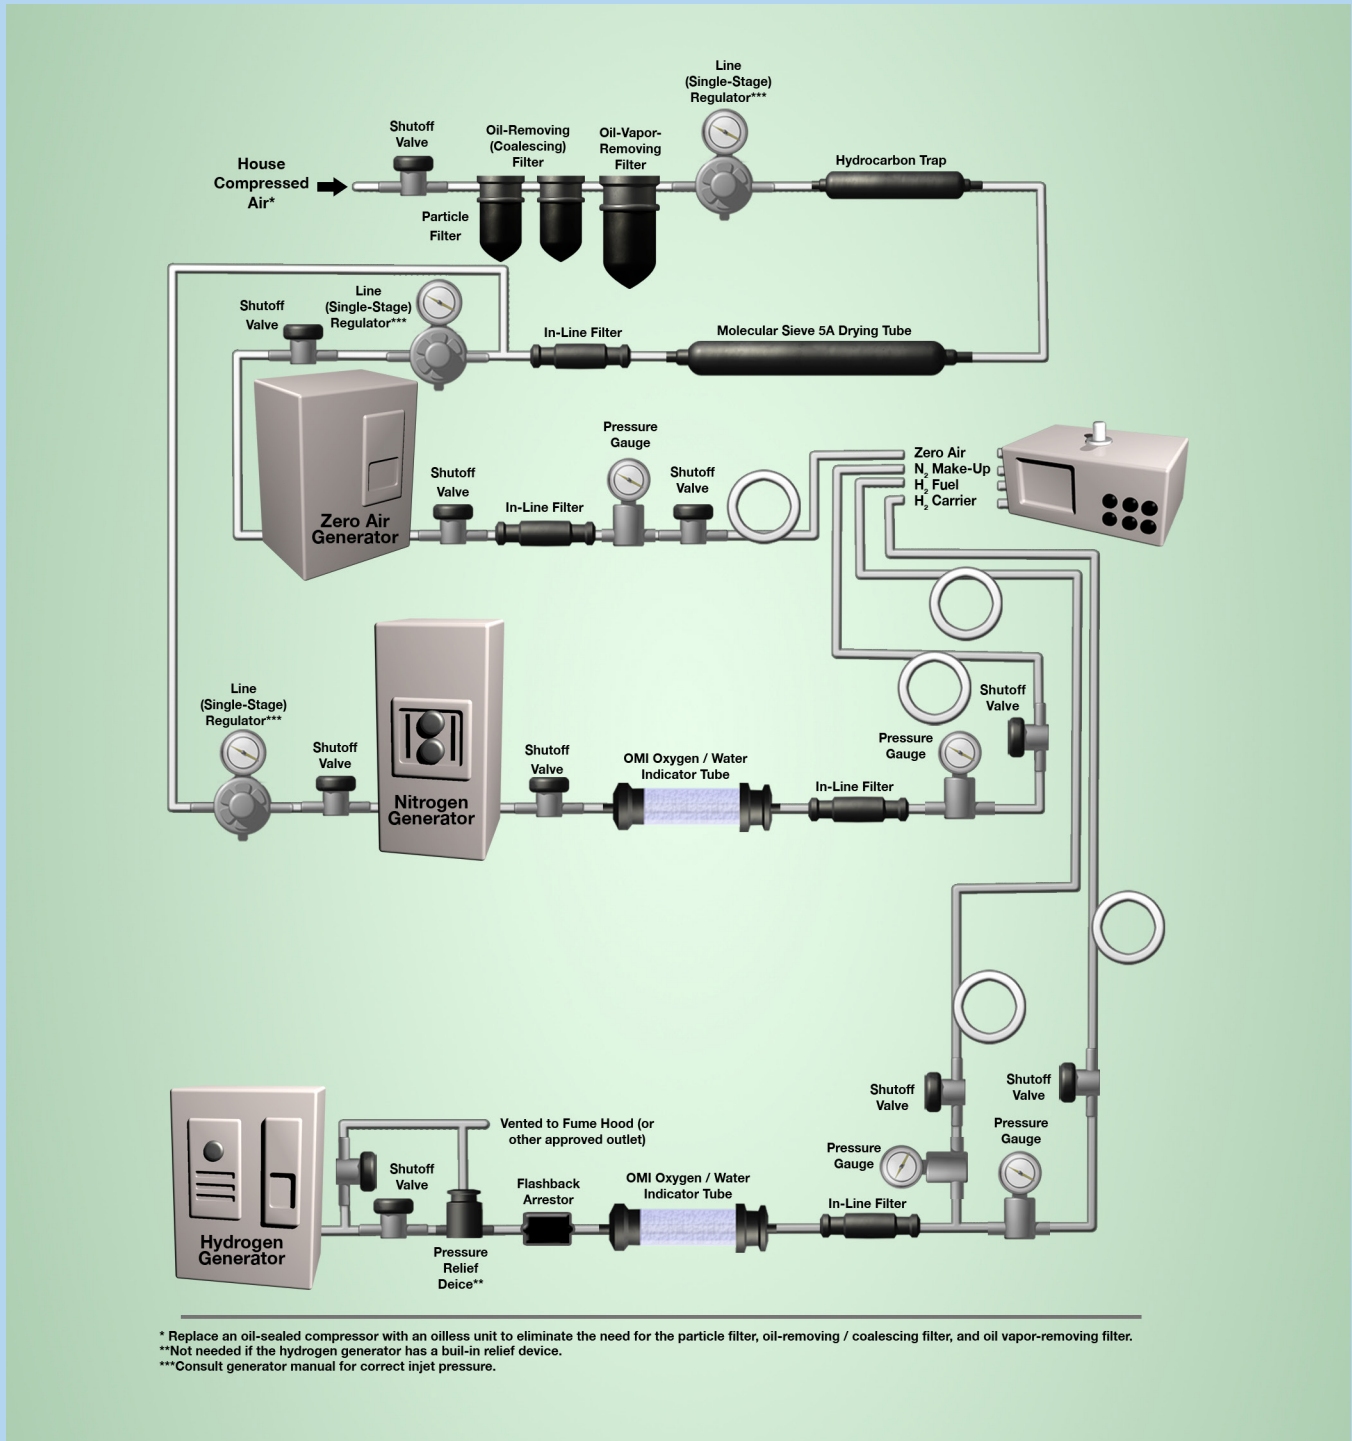

Figure 4: Ideal Configurations for a Single-GC System: All Generator System
- 5 Consider adding Nitrogen generators and high quality air generators to eliminate cylinders and the use of high-pressure gases in the laboratory. A schematic diagram for a typical system using an inhouse generator is shown in Figure 4.